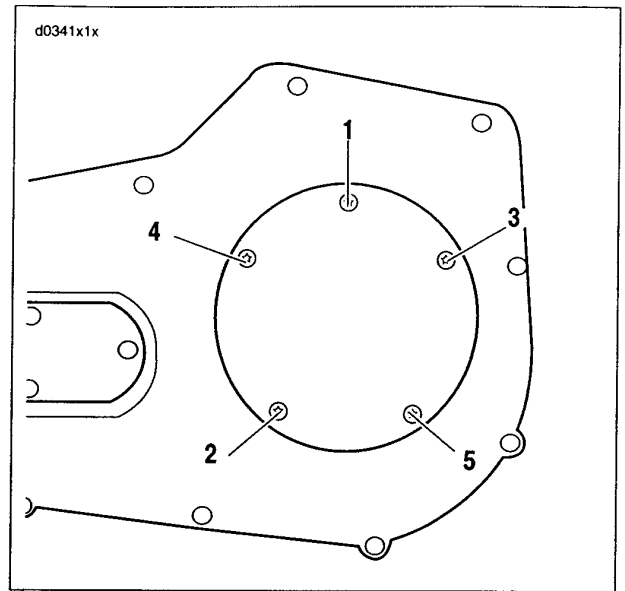

Figure 1-31. Clutch Cover Torque Sequence
- e. Attach clutch inspection cover using five TORX screws with captive washers. Tighten to 84-108 in-lbs (9.5-12.2 Nm). Follow torque sequence shown in Figure 1-31.